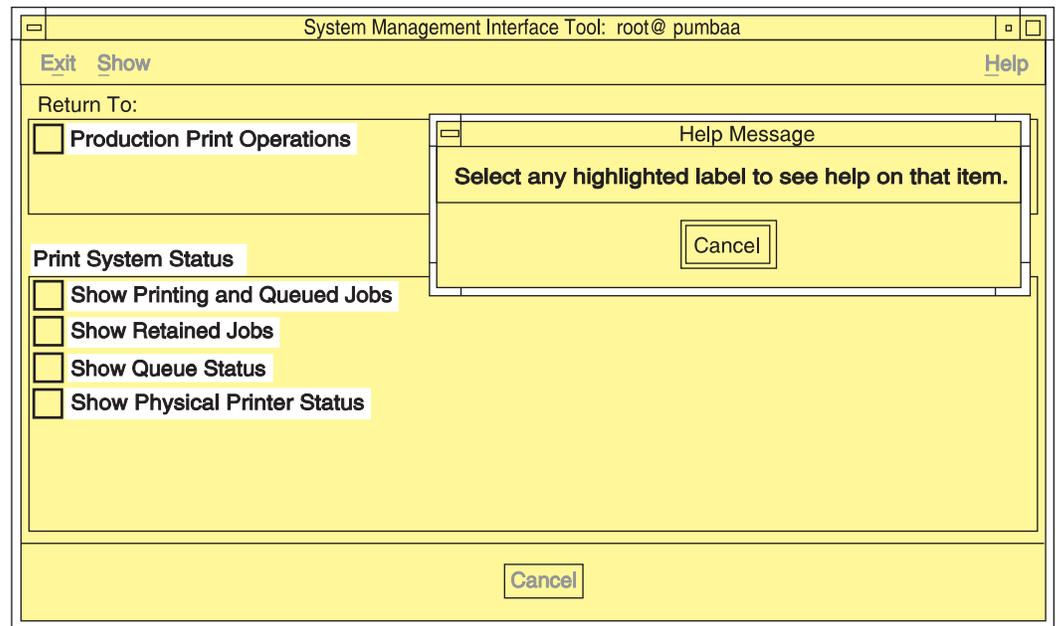

Figure 66. Help for SMIT Panel Menu Selections
1. Press **Ctrl + F1**. All the menu selections on the panel are highlighted. The mouse pointer changes to a question mark. A **Help Message** window opens with instructions on how to access help. Figure 66 shows an example of the results of pressing **Ctrl + F1** for a SMIT panel.